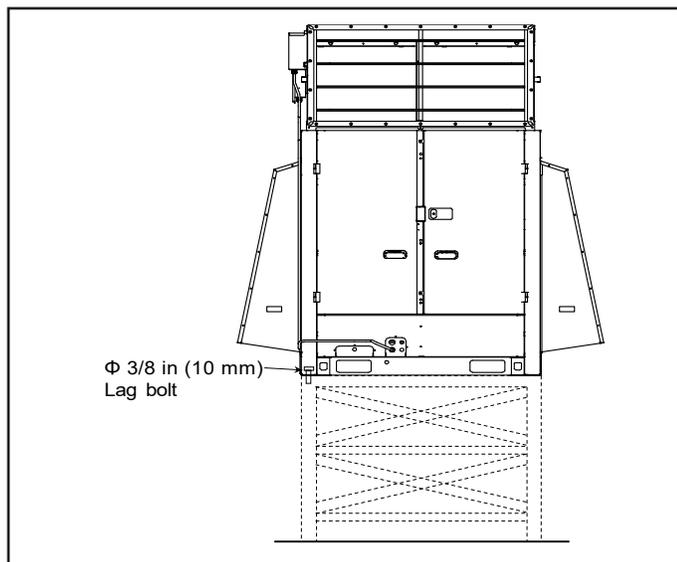

Figure 5. Secure Unit to Weather Resistant Support
- The low ambient cooling hood increases the overall height of the unit and therefore makes it more susceptible to wind stresses. Ensure that unit is secured to its support using either lag bolts or safety strap. See Figures 5, 6 and 7.